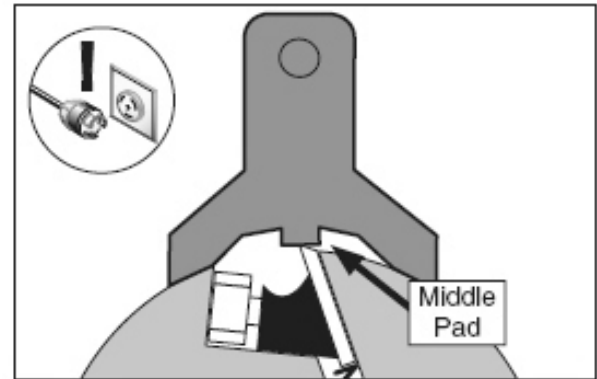

Figure 37. Typical gauge positioned over cutterhead knife.
4. Place the knife setting gauge on the cutterhead, directly over a knife, as shown in **Figure 37**.
3. Using a straightedge on the outfeed table, check the height of each knife at the positions shown in **Figure 37**.